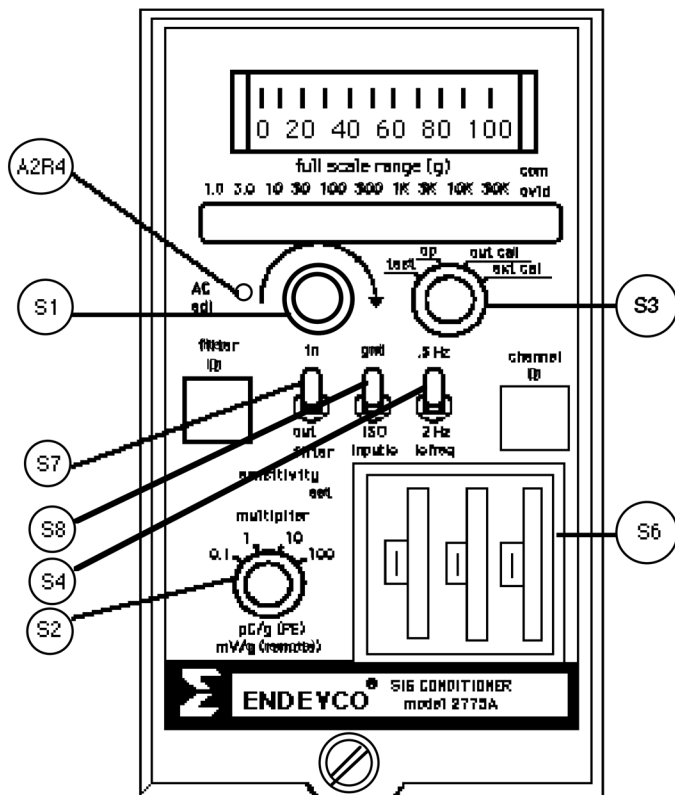

FIGURE 5-1: FRONT PANEL CONTROLS
A. Remove the top cover by removing the four screws on the top of the unit. On the front panel, (Figure 5-1) set the following controls as indicated: